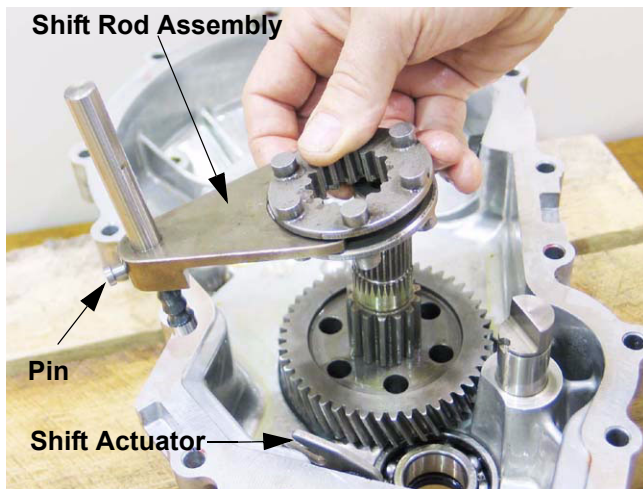

Figure 12.7
- 12.7. Lift the shift collar off of the intermediate shaft together with the shift rod assembly. The pin on the shift rod assembly should disengage from the slot in the shift actuator as it is lifted out. See Figure 12.7.